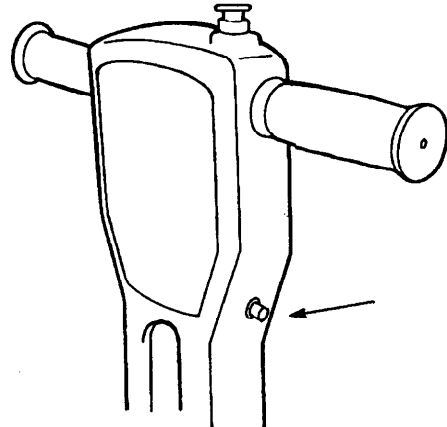

FIG. 6.
**NOTE:** If Circuit Breaker should trip, unplug power cord. Wait at least 15 seconds before resetting breaker switch. While waiting determine reason why circuit breaker tripped ( Fig. 6).